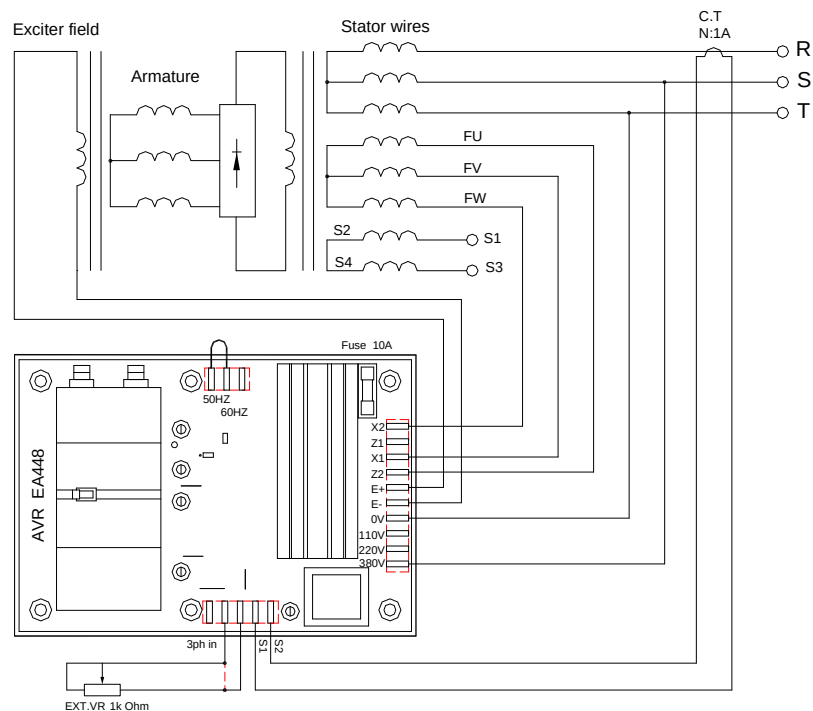

Figure 3 Three phase wiring
1. When excitation power is three phase input, connect X2, X1, Z2. See Figure 3.